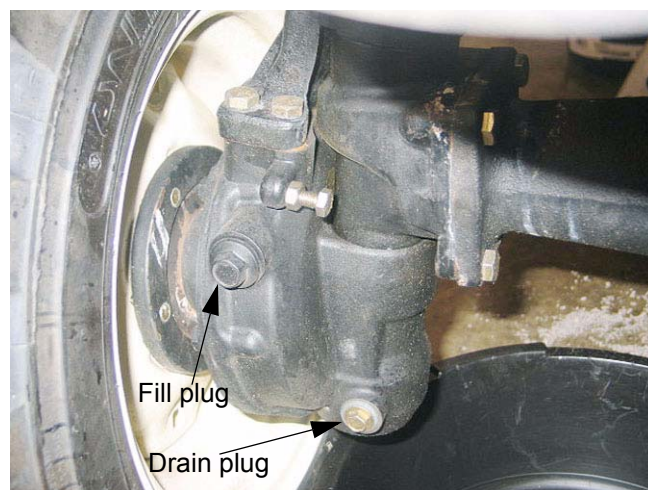

Figure 2.2
- 2.2. Place a drain pan under each final drive housing. Remove the drain plugs using an 11 mm wrench. Remove the fill plugs using a 16 mm wrench. See Figure 2.2.